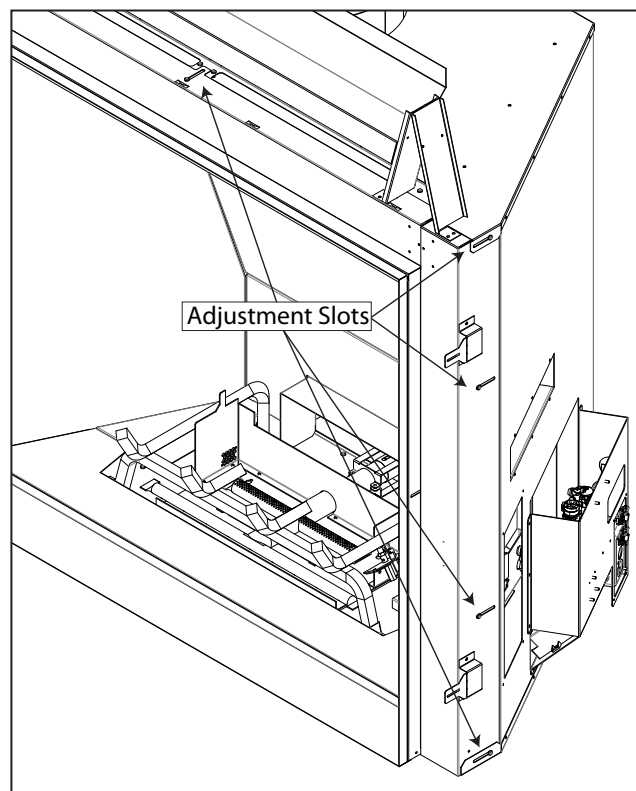

Figure 36: Framing Depth Adjustment
4. There are eleven (11) slotted fasteners that need to be loosened to adjust the framing depth. There are two (2) behind the side covers removed in the prior step, four (4) on the outside of each cabinet side, and one (1) of the top-center of the unit (see Figure 36).
5. With the fasteners loosened, the front face should now be adjustable. All pieces are still connected to each other and should move as one. Adjust the depth to match the desired framing material then retighten the eleven (11) slotted fasteners.